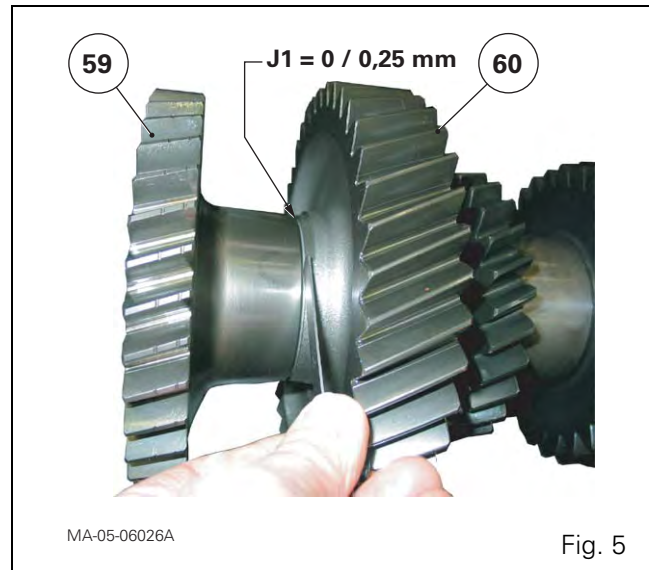

Fig. 5
29. Using a set of shims, measure the space between the 1st gear (60) and the 2nd gear (59) (Fig. 5).
30. Depending on the measured distance, choose shim(s) of an appropriate thickness to obtain the clearance **J1 = 0 to 0.25 mm** (Fig. 5).
31. Remove the circlip (61), opening it up as little as possible, and remove the gear (59).
33. Fit bearing cone (63) (see § E).